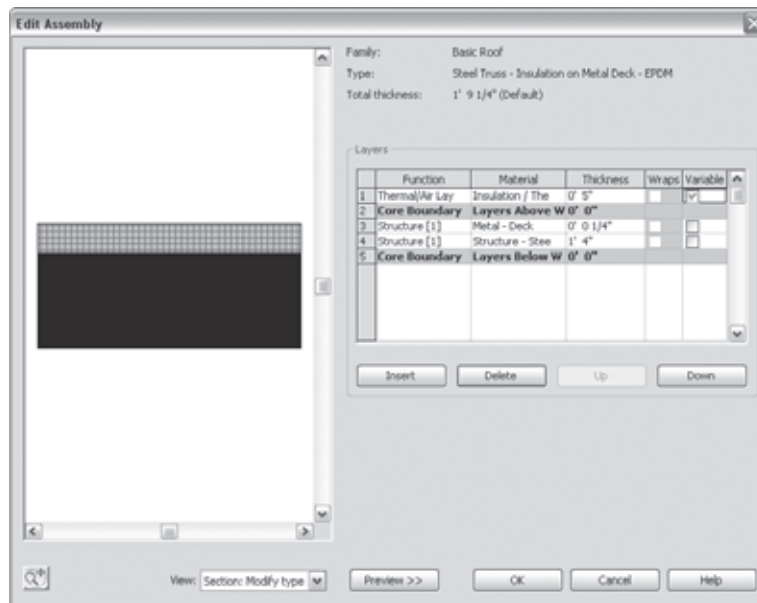

Figure 6.49
2. Activate the preview. You will notice that in the roof structure preview, you do not see any slopes. That is correct and will not change. This preview is just a schematic preview of the structure and does not show the exact sloping. Look for the Variable column under Layers (see Figure 6.49). This allows layers of the roof to vary in thickness when slopes are present. Check Variable for the insulation material. Check Variable for the insulation material.